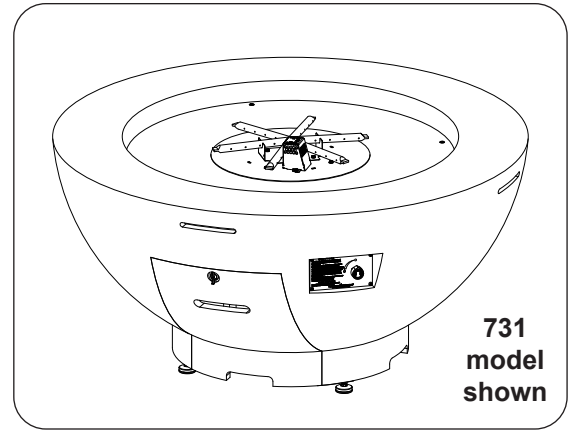

Fig. 26-1 Place unit
1. **CAREFULLY** place the base in an appropriate location (see Fig. 26-1, and refer back to the LOCATION section if needed).